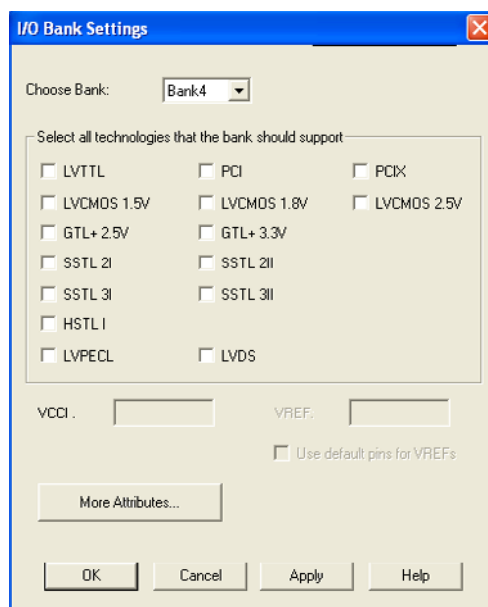

Figure 11 • I/O Bank Settings Dialog Box for Axcelerator Devices
4. Click **More Attributes** to set the low-power mode and input delay (as shown in Figure 11 on page 11). (These attributes are not supported in RTAX-S).